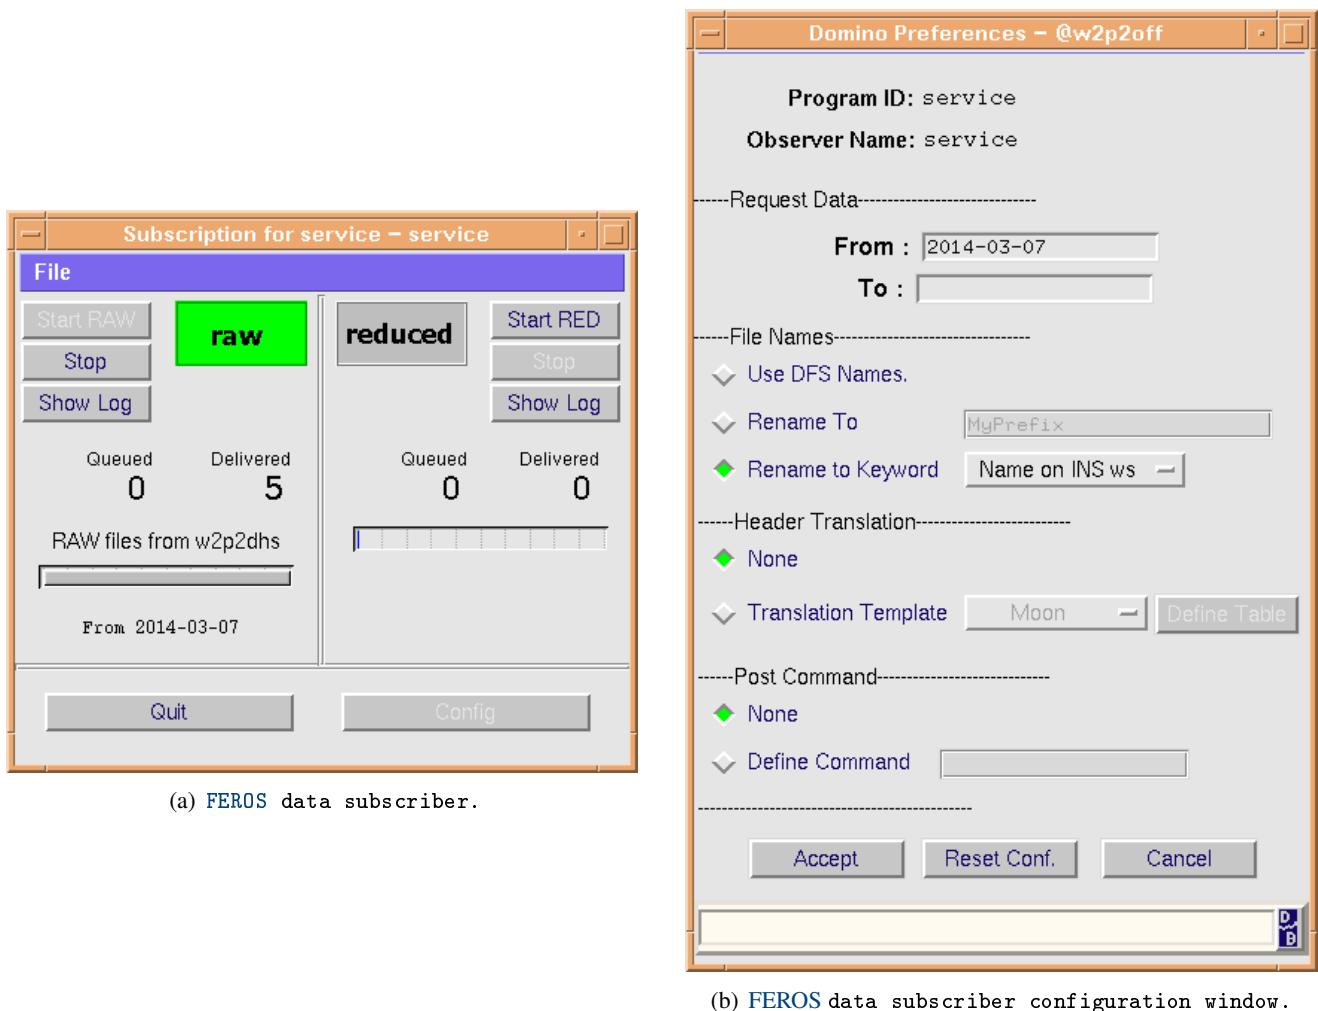

Figure 10.3: FEROS Data Subscriber.
- A. Stop Data Subscriber and DRS at the DRS computer (Fig. 10.3(a), p. 76).
- C1. Left click start Data Subscriber and configure it (Fig. 10.3(b), p. 76).